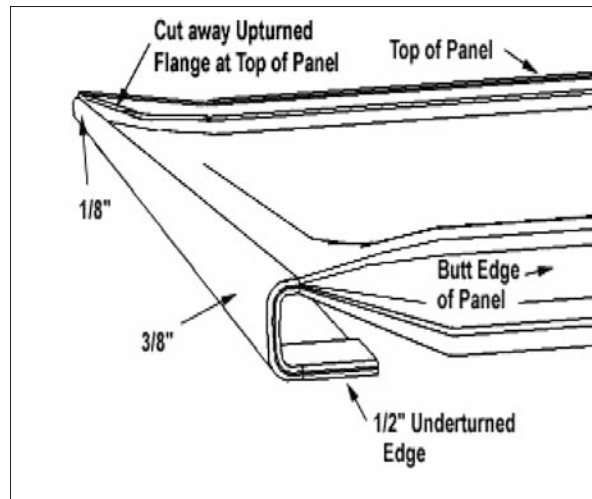
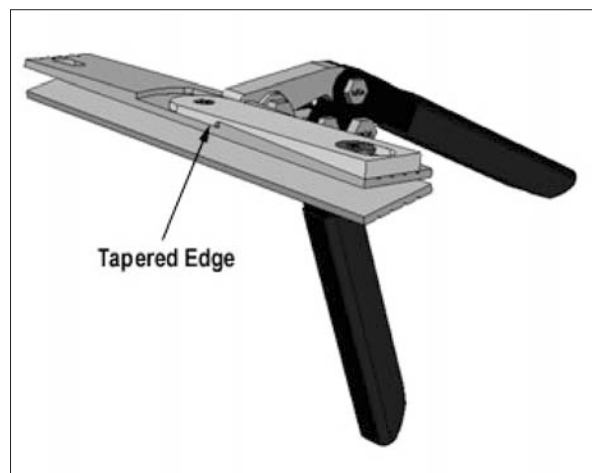

FIGURE 1-12 Close up View of Tapered Edge
FIGURE 1-13 Tapered Hem Seamers
2. Using the **Tapered-Hem seamers**, fold the cut edge of the panel so that when completed the bottom edge of the fold will be $\frac{3}{8}$ " thick and returned back approximately $\frac{1}{2}$ ". The fold at the top edge of the panel will be approximately $\frac{1}{8}$ " thick and also returned back approximately $\frac{1}{2}$ ". See *Figure 1-12* and *Figure 1-13*.